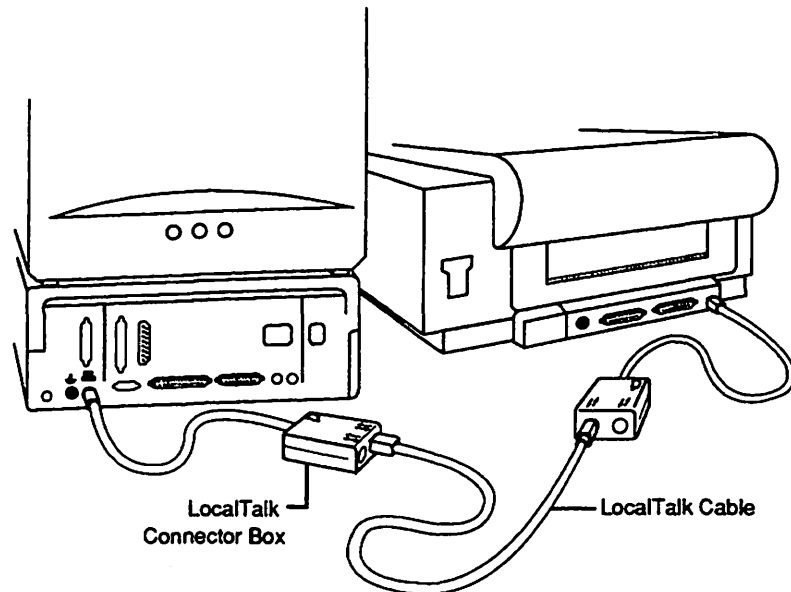

Figure 3-1
3. Connect each connector box by using LocalTalk or Ethernet cables. Figure 3-1 shows a LocalTalk connection.